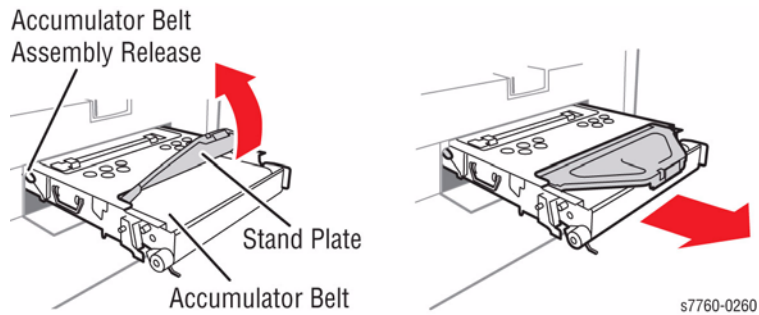

Figure 5 Removing Accumulator Belt Assembly
4. Lift the Accumulator Belt Assembly Release and pull the Accumulator Belt Assembly out until the Stand Plate is accessible as shown in Figure 5.
5. Remove the 2 screws securing the Stand Plate on the front and rear of the Accumulator Belt Assembly. Lift the Stand Plate as shown in Figure 5.